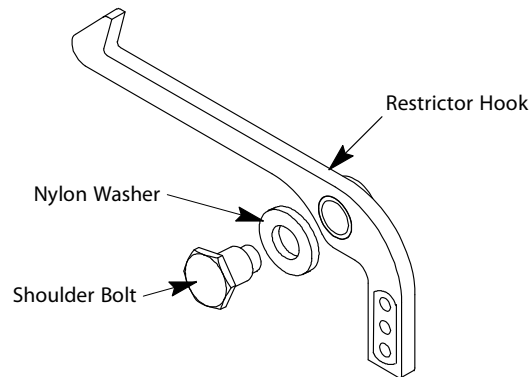

Figure 7 - Attach Restrictor Hook to Door Hanger
9. Use a shoulder bolt and nylon washer to attach the restrictor hook to the door hanger. See Figure 7.